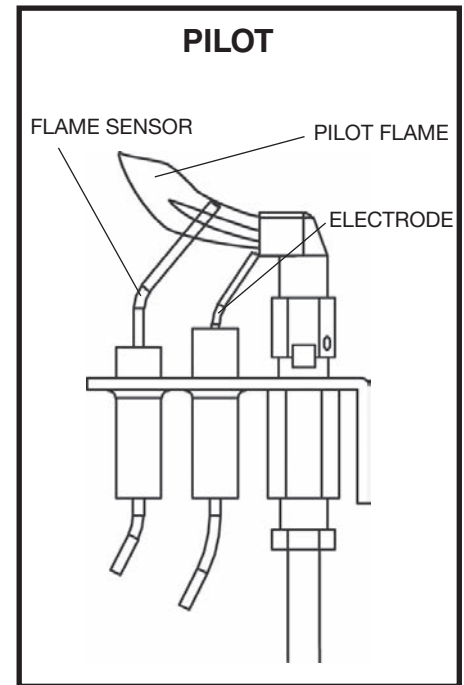
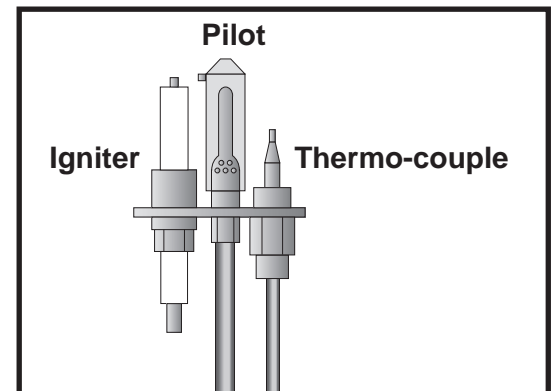

Figure 45: SIT pilot assembly.
Figure 46: Maxitrol pilot.
- Check the pilot system for proper flame size and operation. Clean pilot free of soot, dust or any other deposits (Figure 45 and Figure 46). Have a qualified service person adjust the pilot flame.